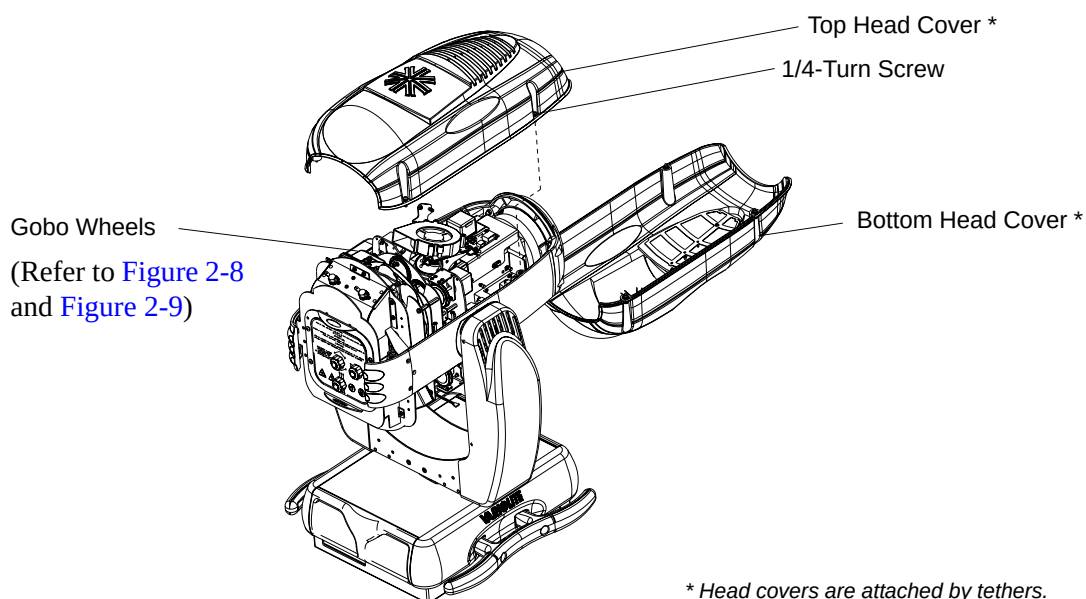

Figure 2-7: Head Cover Removal
1) To access Wheel 1 and 3, remove bottom cover as shown in Figure 2-7.
2) To access Wheel 2, remove top cover as shown in Figure 2-7
1) To access Fixed Gobo Wheel, remove bottom cover as shown in Figure 2-7.
2) To access Rotating Gobo Wheel, remove top cover as shown in Figure 2-7.